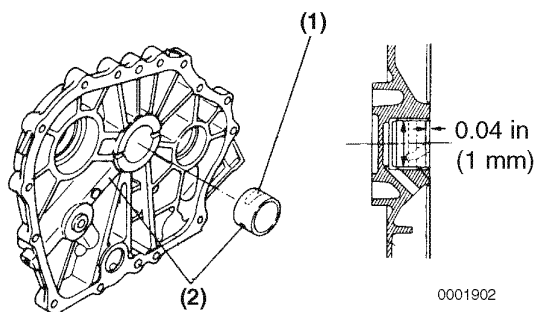

Figure 8-59
Inspect the main bearing (**Figure 8-59, (1)**) for discoloration, separation or other damage.
1. Measure the inside diameter of the main bearing insert (**Figure 8-59, (1)**) in the crankcase cover. See *Crankshaft* on page 8-7 for the service limit. Record the measurements.
- (b) When installing the new bearing insert, make sure the oil groove (**Figure 8-59, (1)**) is facing up and that the oil hole is facing the oil port (**Figure 8-59, (2)**). Install to a depth of 0.04 in. (1 mm) from the thrust surface (**Figure 8-59**).